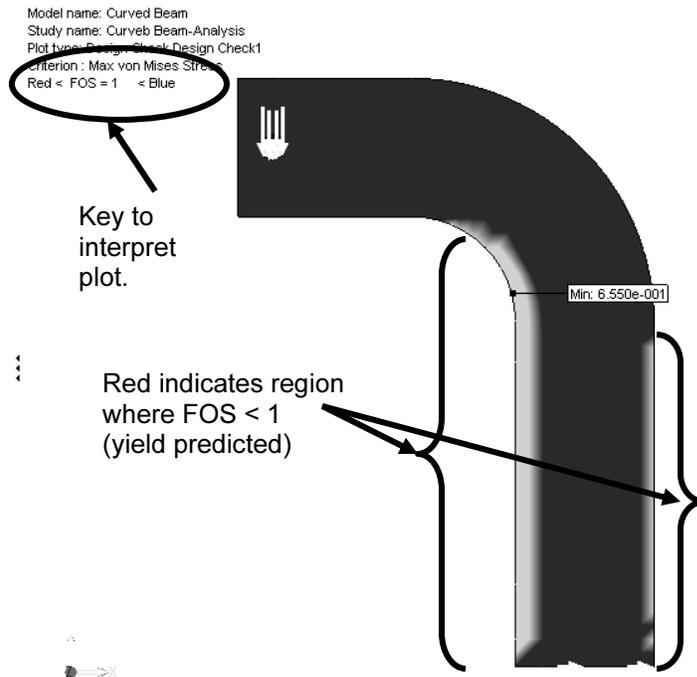

Figure 24 – Curved beam model showing areas where FOS > 1 (safety predicted) and where FOS < 1 (yield predicted).
10. Click **[OK]**  to close the **Design Check** property manager. A new plot folder, named, **Design Check1 (-Criterion: Max von Mises Stress-)**, is listed beneath the **Results** folder. Also, a plot showing regions of the model where the Safety Factor is < 1.0 (red) and where the Safety Factor is > 1.0 (blue) is displayed in Fig. 24.
The preceding step labels the location of minimum Safety Factor on the curved beam as shown in Fig. 24. As expected, this location corresponds to the location of highest stress previously illustrated in Fig. 16.
The figure now on the screen should correspond to Fig. 24. This figure shows regions where the factor of safety is less than 1 (unsafe regions) in red. Regions with a factor of safety greater than 1 (safe regions) are shown in blue. Localized regions, along the right and left vertical edges and extending into the concave region, have a safety factor less than one.
The line of text, circled near the top-left in Fig. 24, provides a “key” to interpret safe and unsafe regions on the model.